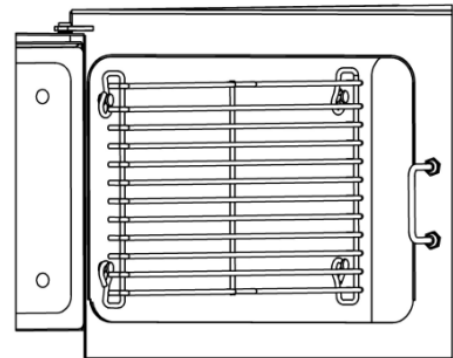

Figure 3-1 Slide Rack Installation
1. Refer to Figure 3-1. Each rack has four loops: two at the top and two at the bottom. Hold the slide rack so the ends of the hanger loops are towards the cavity wall.
- a. Refer to Figure 3-1 for the recommended layout of the gas supply lines.